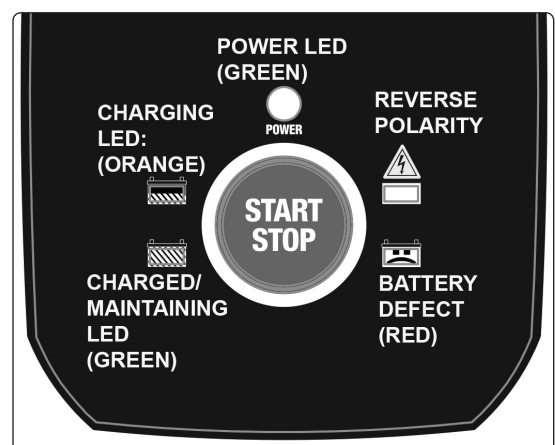

fig.14
8.2. CHARGER CONTROL PANEL fig.14